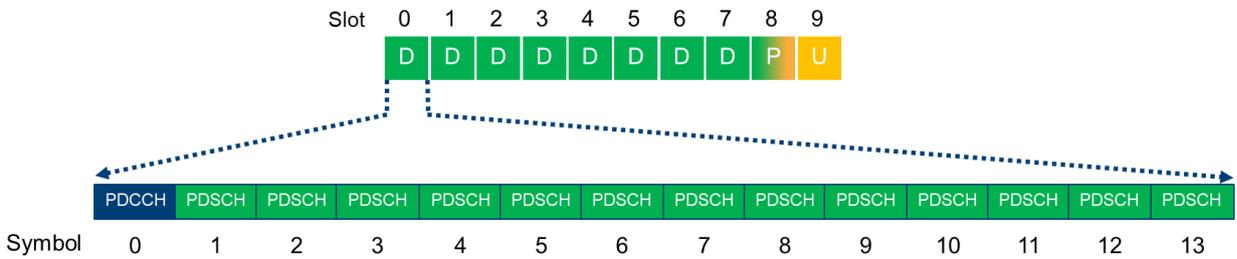

Figure 9 TDD downlink slot configuration for maximum downlink throughput
- For all downlink slots (slot 0 to slot 7), reserve 1 symbol (symbol index 0) for PDCCH to reduce the control overhead (see 2.2.3). The remaining 13 symbols (starting from symbol index 1) are allocated for PDSCH. Figure 9 depicts the time domain resource assignment for TDD DL slots.